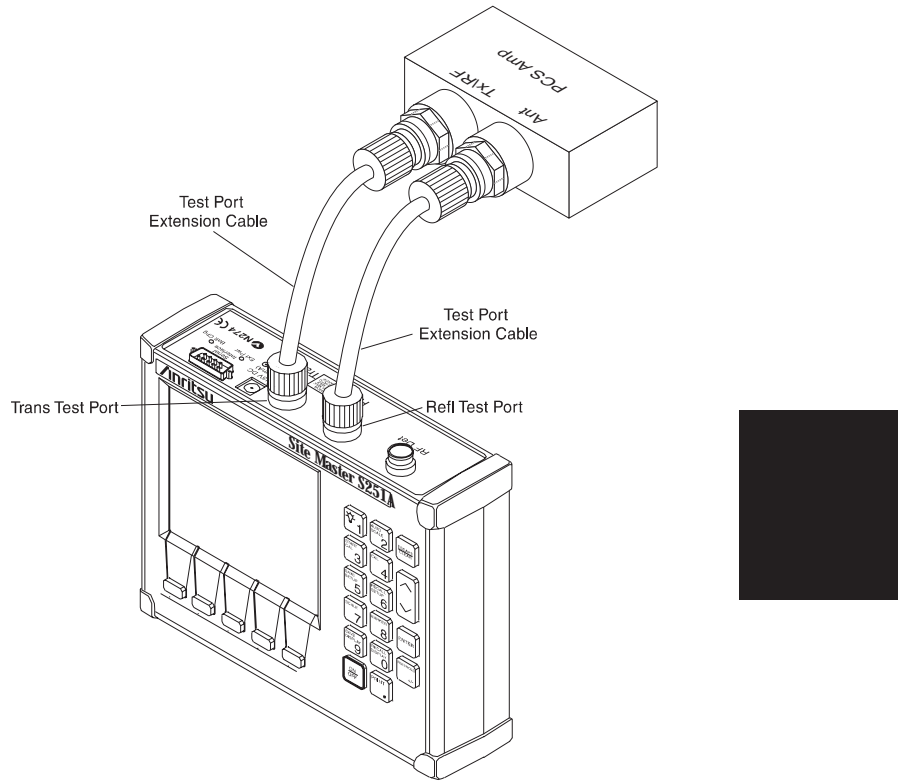

Figure 3-14. Amplifier Gain Measurement Setup
Step 17. Connect the amplifier to the test port extension cables as shown in Figure 3-14.